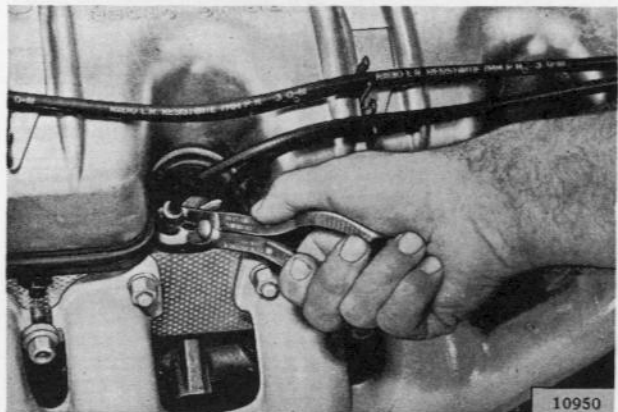

FIG. 59—REMOVING SPARK PLUG WIRE CABLE WITH TOOL W-274
**a.** Use a spark plug cable removing and installing pliers W-274 as shown in Fig. 59 to remove the leads from the spark plugs.